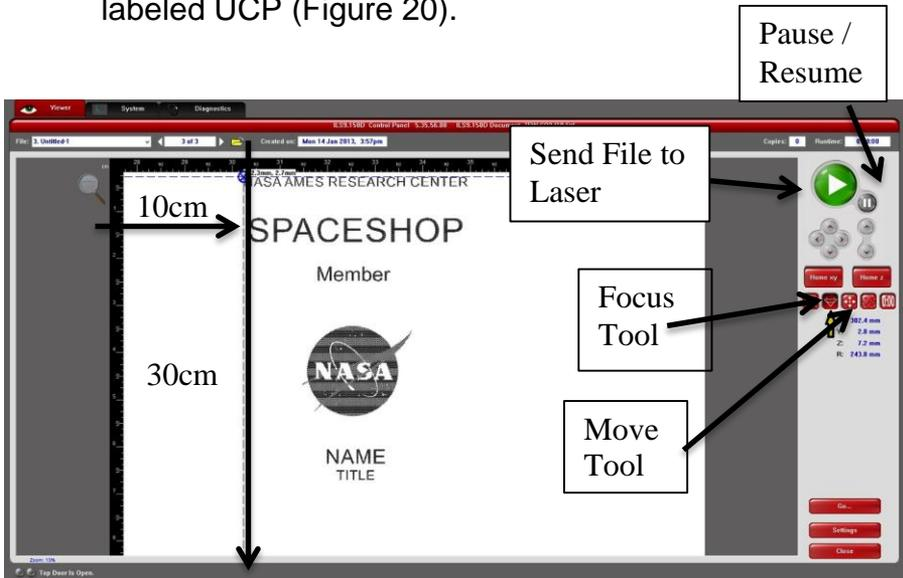

Figure 21: Universal Control Panel
38. When you are satisfied with the position of the **RED POINTER**, then **CLICK** the **GREEN PLAY ICON** to begin laser processing run (Figure 21).